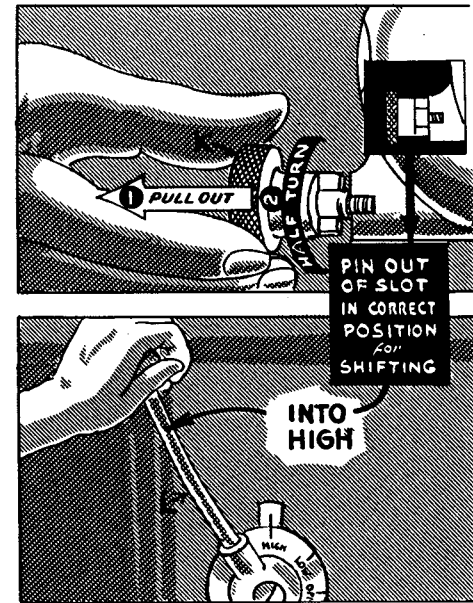

FIG. 84
5. Start the shaper with lever **L** (Fig. 84) after making